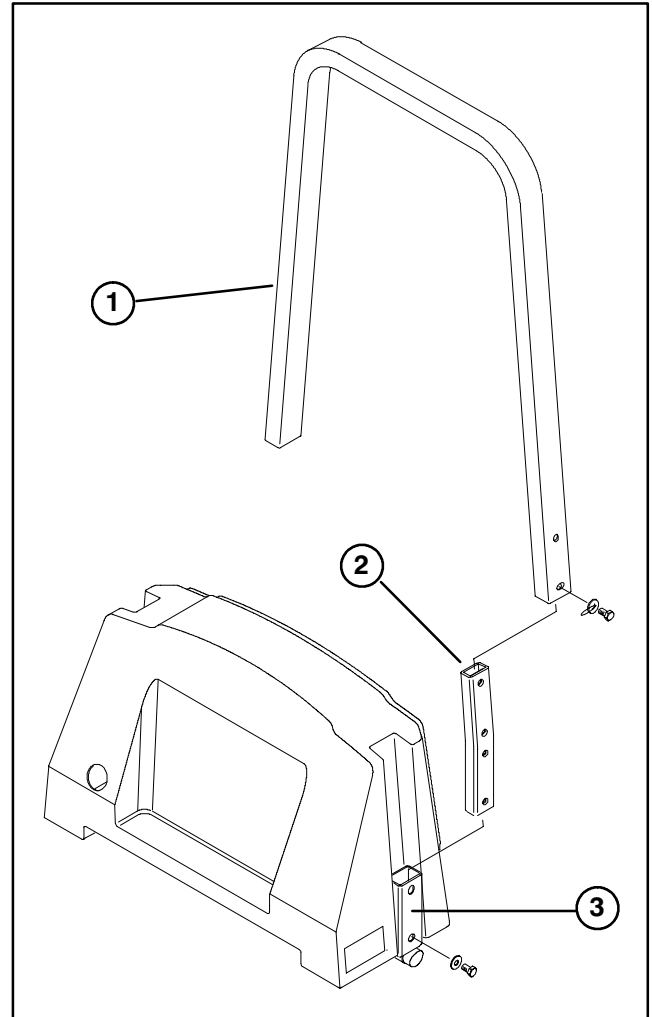

Figure 2
INSTALL ROLL BAR (Fig. 2) Model 30302 only
1. Loosely mount a bar assembly to each end of roll bar with (2) bolts and flat washers.
2. Lower roll bar into frame holder, aligning mounting holes as shown in Fig. 2.
3. Loosely secure bar assembly to frame holder with (4) bolts and flat washers (Fig. 2).